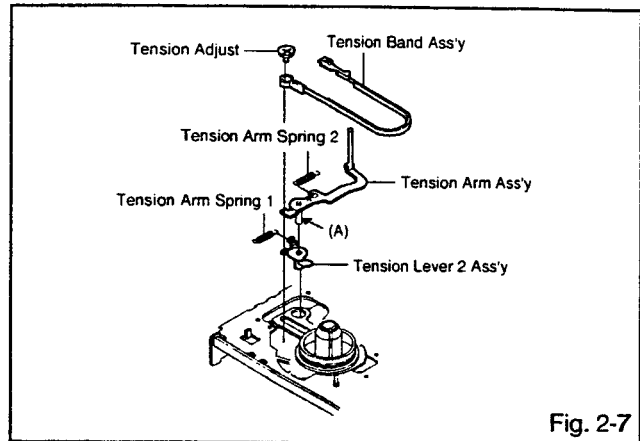

Fig. 2-7
2-7: TENSION BAND (Refer to Fig. 2-7)
2. Oil (kyoudo oil slaidasu #150) the area marked with A in Fig. 2-7.